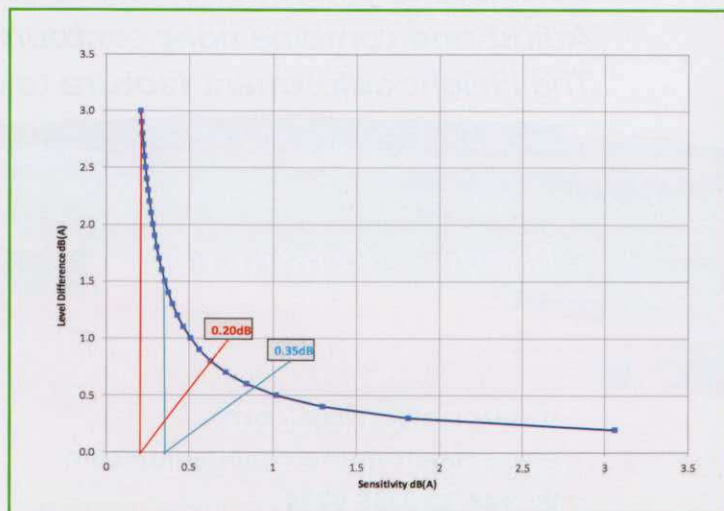

Figure 2 – Graph of level difference vs calculation sensitivity highlighting the effect of a 0.1dB decrease in signal to noise ratio on derived turbine noise
The above discussion requires more consideration of the appropriate signal to noise ratio liable to result in useful results. To evaluate a likely useful range of signal to noise ratios, it is instructive to look at what happens if the measured turbine plus background noise level is just 0.1dB(A) lower, reducing the level difference by 0.1dB(A). The effect is illustrated by figure 2.
Firstly, as figure 2 suggests, it may be pragmatic to accept signal to noise ratios of around 1.5dB(A) as these do not significantly increase the variation in the turbine noise levels derived. However, level differences of 1dB(A) or less would seem to be subject to much more significant error.